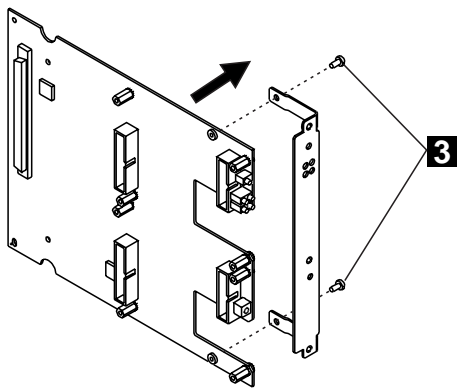

Figure 11. Removing the Dummy Faceplate Bracket
- **4** Remove the dummy faceplate bracket from the motherboard (**3** in Figure 11), retaining the screws for the new bracket. Keep the dummy bracket in a safe place for future reuse.